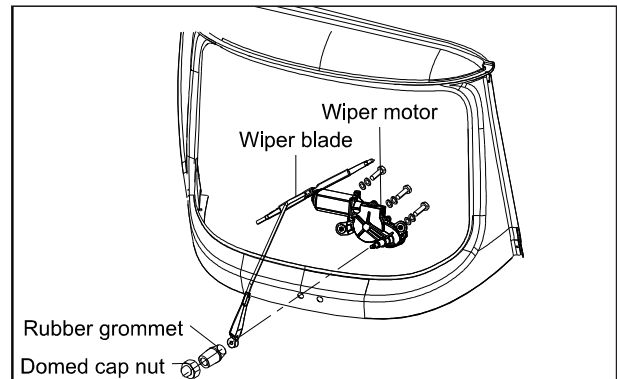

Fig. 9.25
- Insert and tighten the 3 nos. Hexagonal screw M6x20 along with a wave spring washer and a plain washer each bolt. (Fig. 9.25)
- Insert the rubber grommet motor mounting inside the hole on the wind shield frame. (Fig. 9.25)
- Position the wiper blade assembly on the shaft wiper motor assembly and tighten dome nut. (Fig. 9.25)